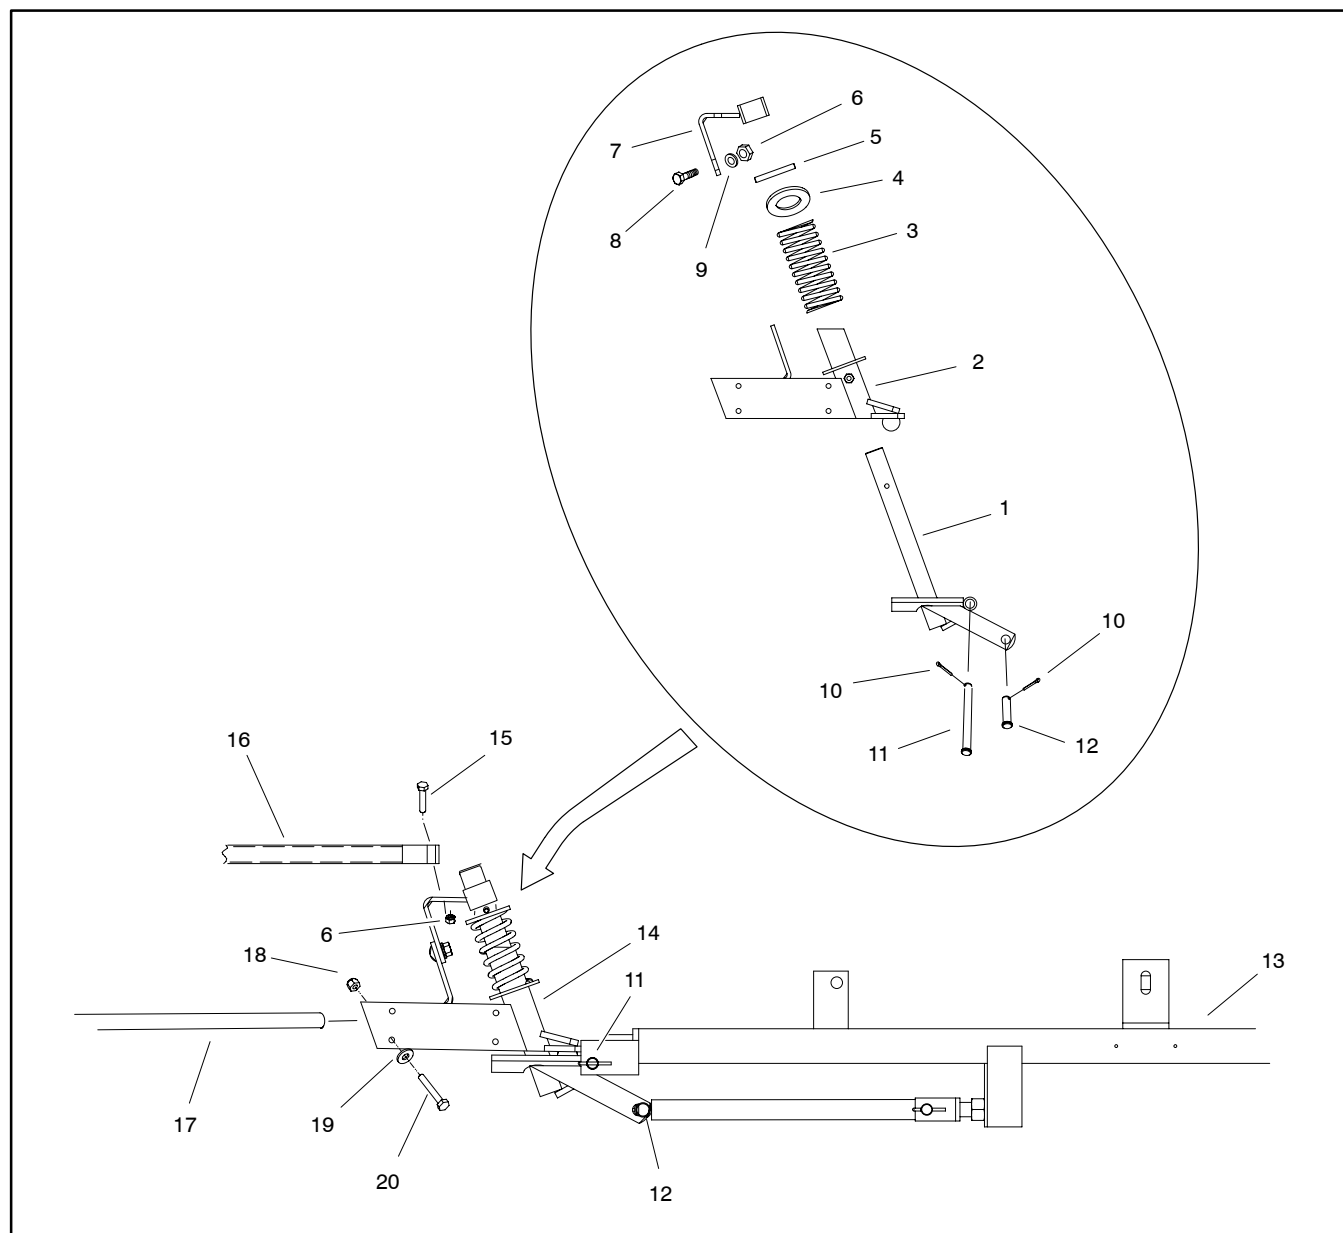

Figure 38
Disassembly (Fig. 38)
5. Complete disassembly as required using Figures 38 and 39 as guides.
Assembly (Fig. 38)
1. Assemble breakaway pivot using Figures 38 and 39 as guides.